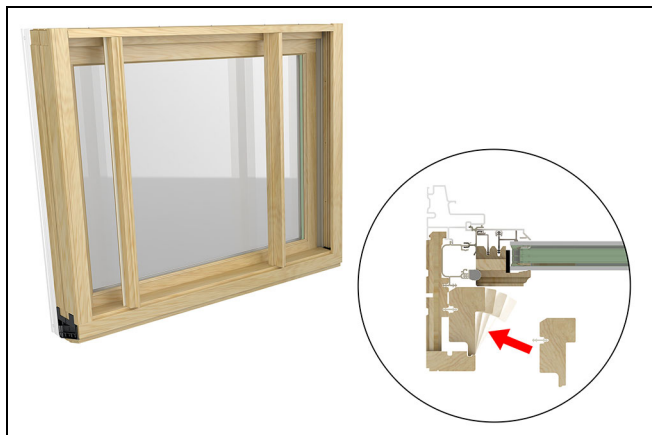

Figure 58
5. Install the side stops that barb into the jamb. Rotate the stop around the jamb liner and seat the stop with a rubber mallet. See Figure 58